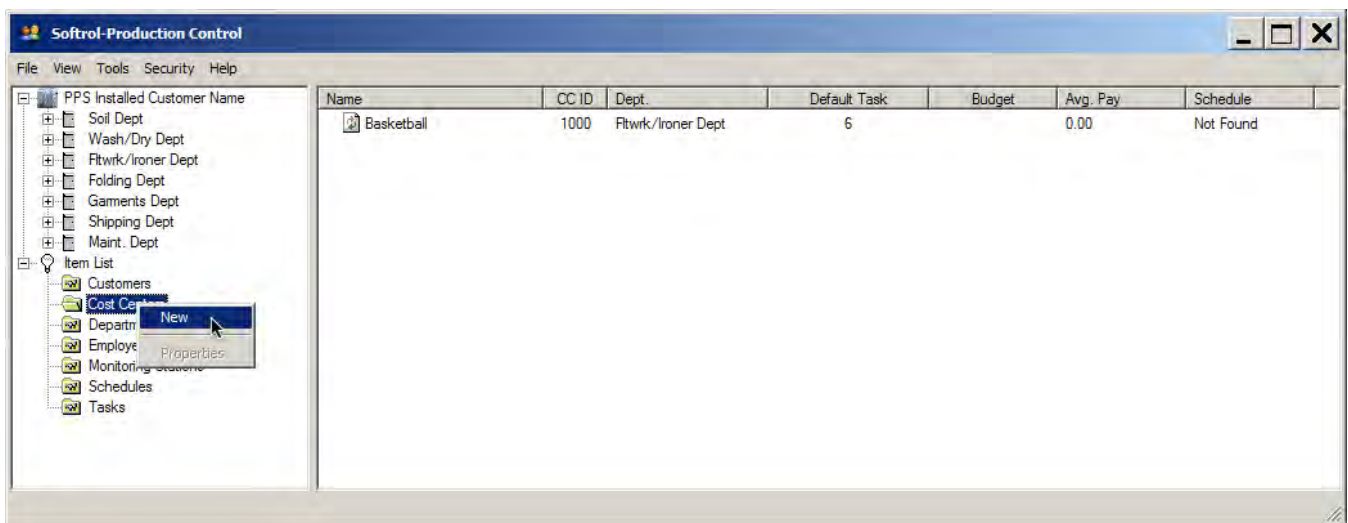

Figure 14. Setup: New Cost Center.
2. Right-click the highlighted **Cost Center** list item and click **New** (See Figure 14).